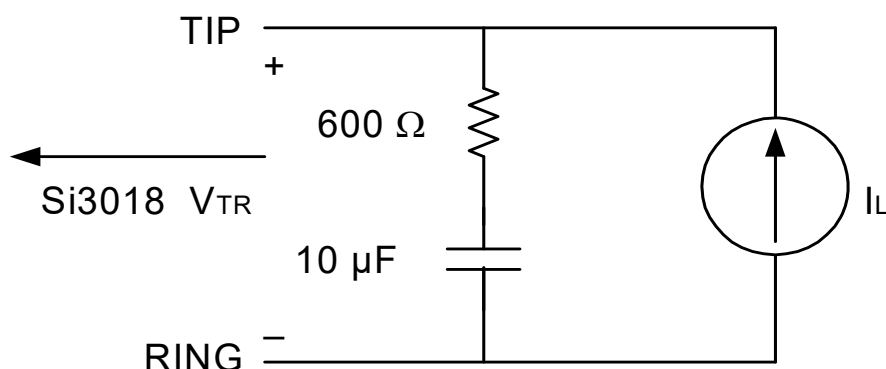

Figure 26. Phone Line Termination Circuit
&T3	Initiate ITU-T V.54 (ANALOOP) test. Modem mode set by &H. Test loop is through the DSP (ISModem), DAA interface section (ISModem), ISOCap interface (Si3018/10), and analog hybrid circuit (Si3018/10). ISModem echoes data from TX pin (Hardware Interface Register 0 in parallel or SPI mode) back to RX pin (Register 0 in parallel or SPI mode). Phone line termination required as in Figure 26. In order to test only the ISOCap link operation, the hybrid and AFE codec can be removed from the test loop by setting U62 [1] (DL) = 1.